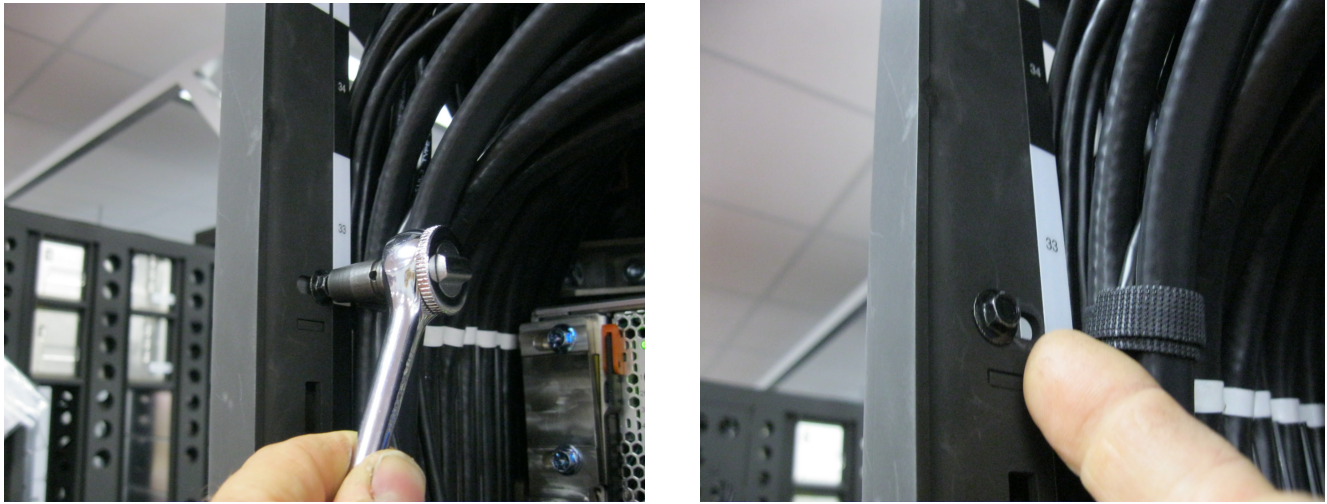

Figure 10 Raceway Retention Screw
- a) Loosen the UPIC raceway retention bracket screw using the 1/4" drive ratchet and 7mm socket and slide screw and bracket forward (see photos in Figure 10 below).
STEP 19 Secure UPIC raceway bracket retention screw using ¼” drive ratchet and 7mm socket (see photo in Figure 10).